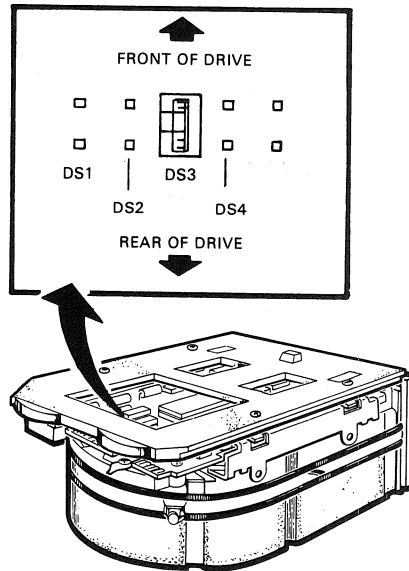

Figure 4-11 Set Jumper Clip
1. Make sure the jumper clip on the fixed disk drive is set at DS3 (see Figure 4-11).